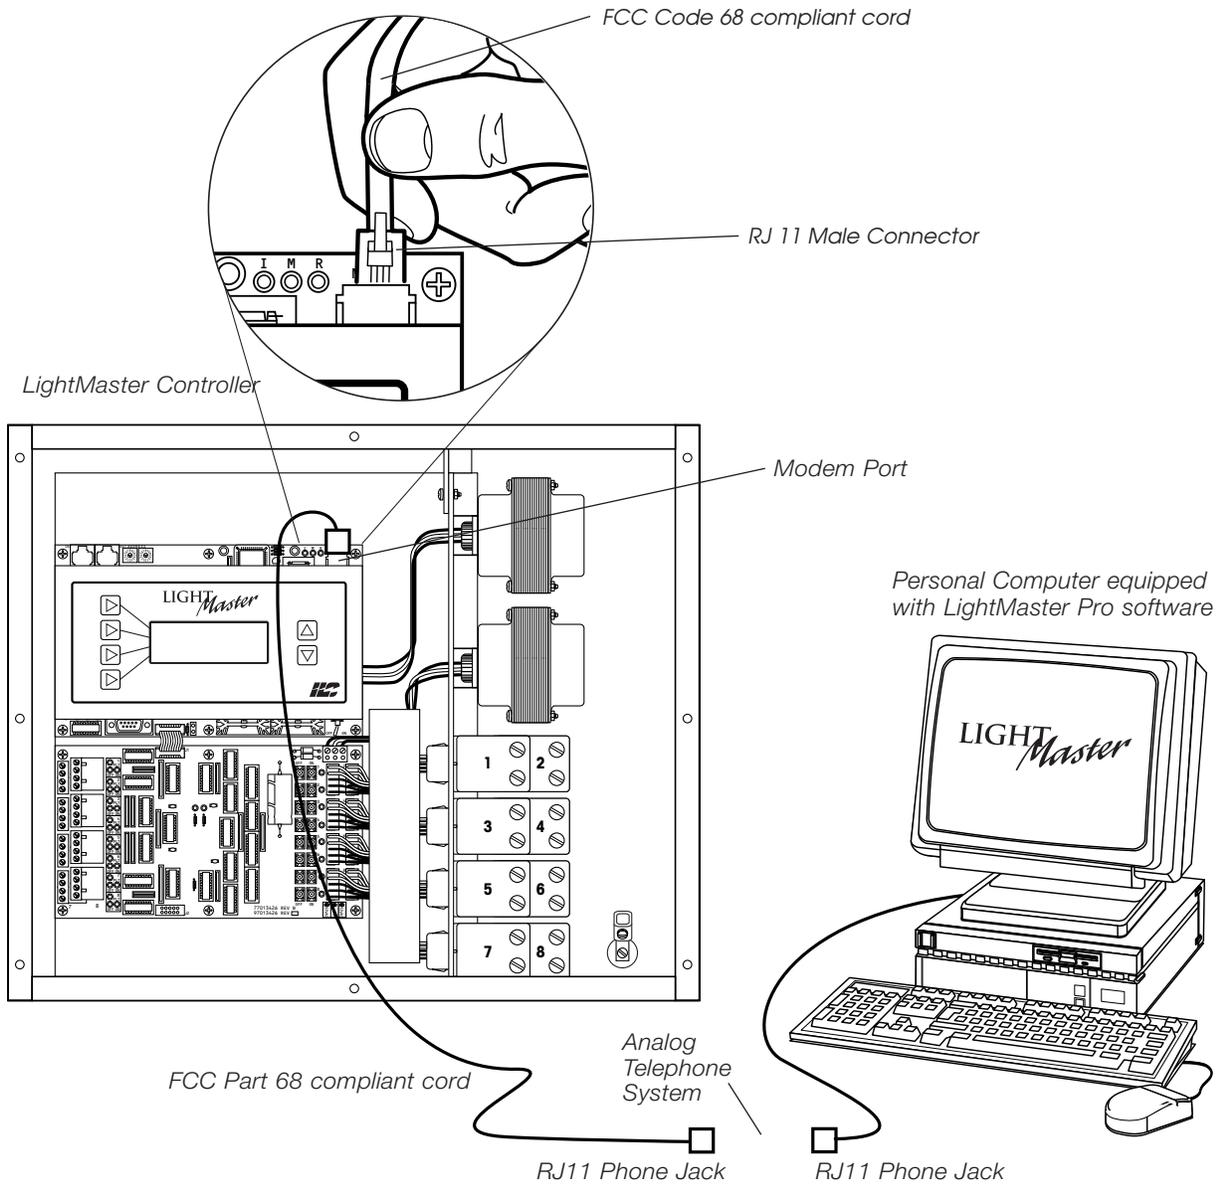

Figure 2.2 – On-board Modem Link
- **On-board Modem (if equipped)**- connect the LightMaster's on-board modem and your computer's modem via a direct analog telephone system (no digital systems) to enable remote communication. (See Figure 2.2)